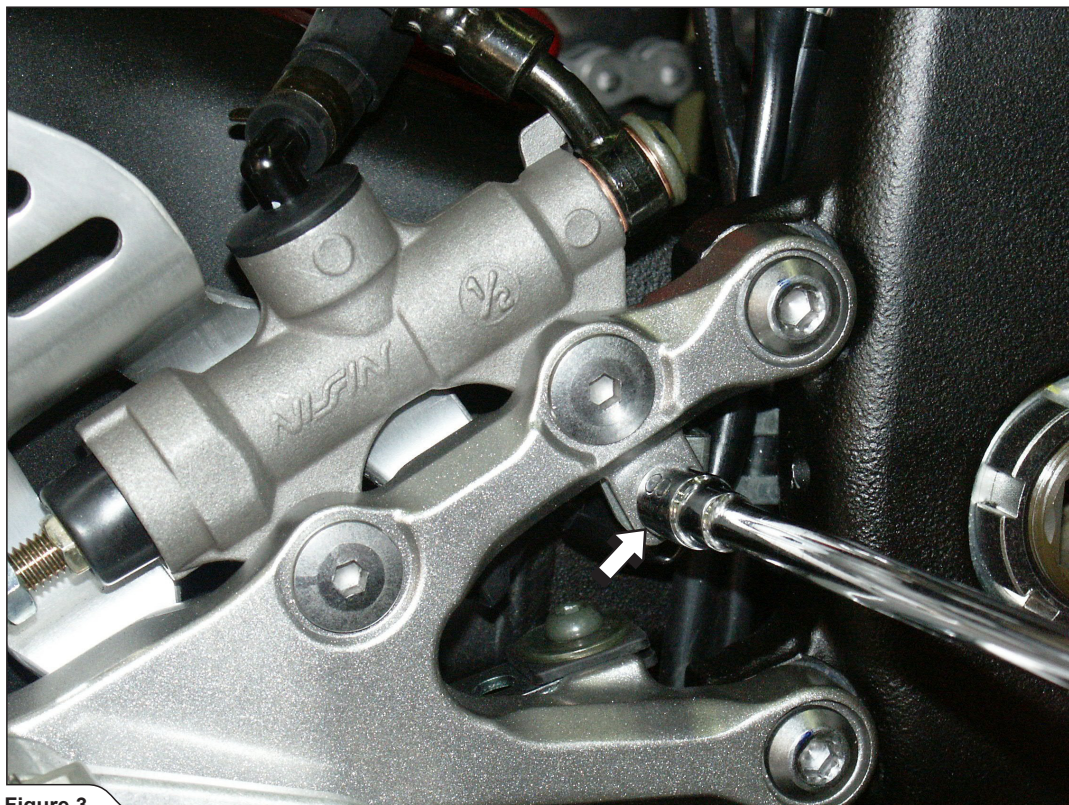

Figure 3
4. For Slip-On Open and Slip-On Megaphone only: unscrew the marked cable bracket (Figure 3).